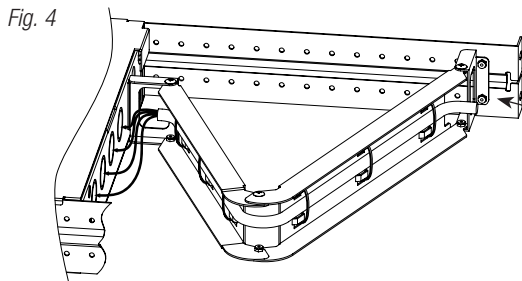

Fig. 4
5. Attach the hinge bracket on the longer side of Z Bracket to the adjustable slide using bolts and lock nuts (included) (*Fig. 4*, 4a, pg. 4).